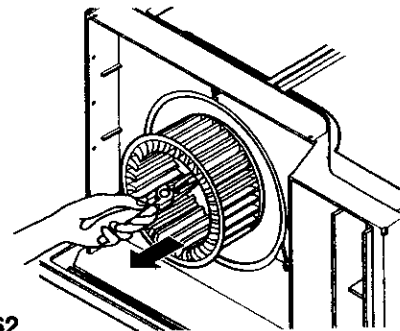

Figure 62
6. Remove the blower with plier or your hand without touching blades. (See Figure 62)